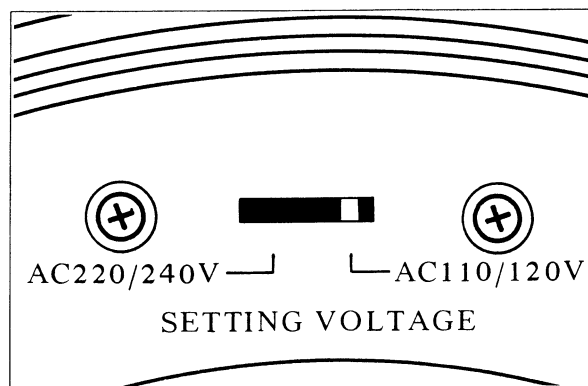

Fig. 3 Voltage Conversion
1. VOLTAGE CONVERSION (Refer to Fig. 3)